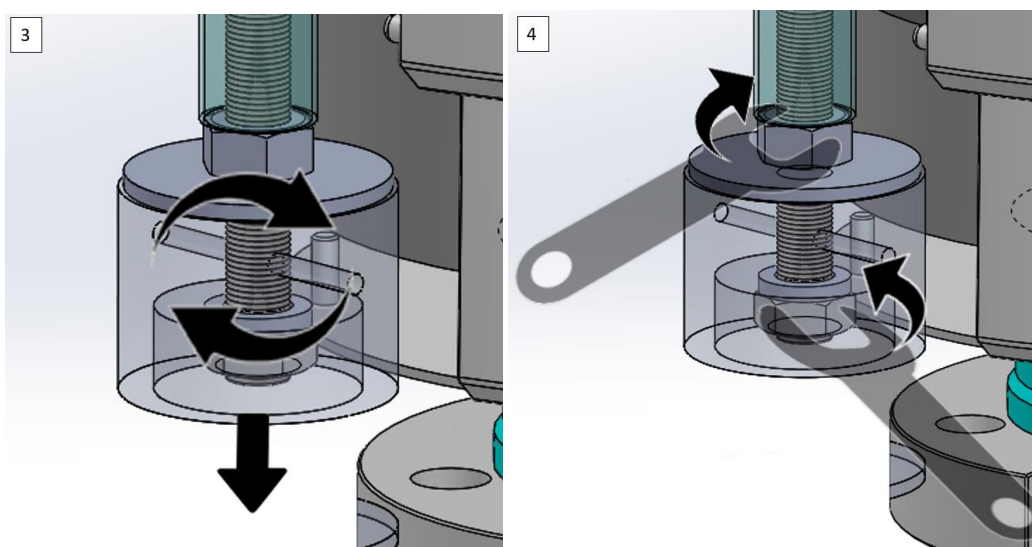

Fig.23 Adjustment of the travel brake. Adjustment.
3. lower the knob minimally to get more bar travel, as shown in the picture on the left in figure 23, so you will have more friction and the brake will slow down. If, on the other hand, you want less resistance to travel, you will need to leave less bar travel.
4. Tighten each of the nuts until the system is fixed as shown in the picture on the right in figure 23. The upper nut tightened clockwise and the lower nut counterclockwise.